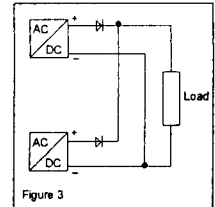

Figure 3
2. In some cases it is desirable to have each supply capable of delivering 100% of the load current (parallel redundant); in this case the units should be connected as shown in figure 3 overleaf.